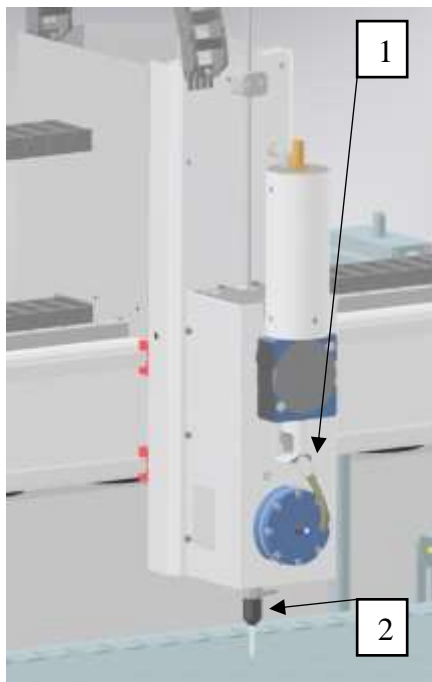

Fig. 46: Tool holder with Abrasive Dosage
3. Pull off tube from Abrasive Dosage (Fig.46/1)
4. With the help of a 24mm Spanner undo the Cutting Nozzle holder. (Fig.46/2)